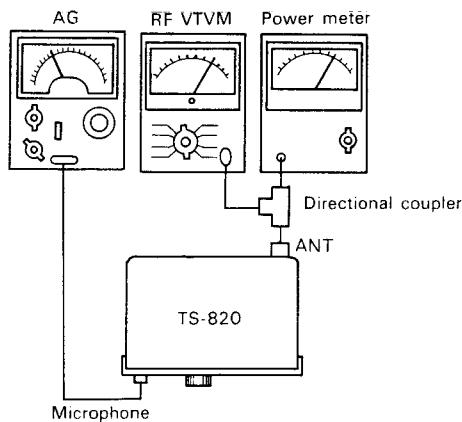

Fig. 35 Adjustment of carrier point
1) In **Fig. 35**, connect AG to MIC terminal and apply an input of 1500 Hz at 5 mV.